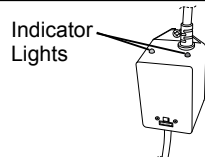

Figure 7
22. Once power is activated you can check the ballast (12), Figure 7, to see if the CLEARRAY System is functioning. A solid green light indicates that the CLEARRAY System is being provided power and should always be on. A solid red light indicates that UV bulb is activated.